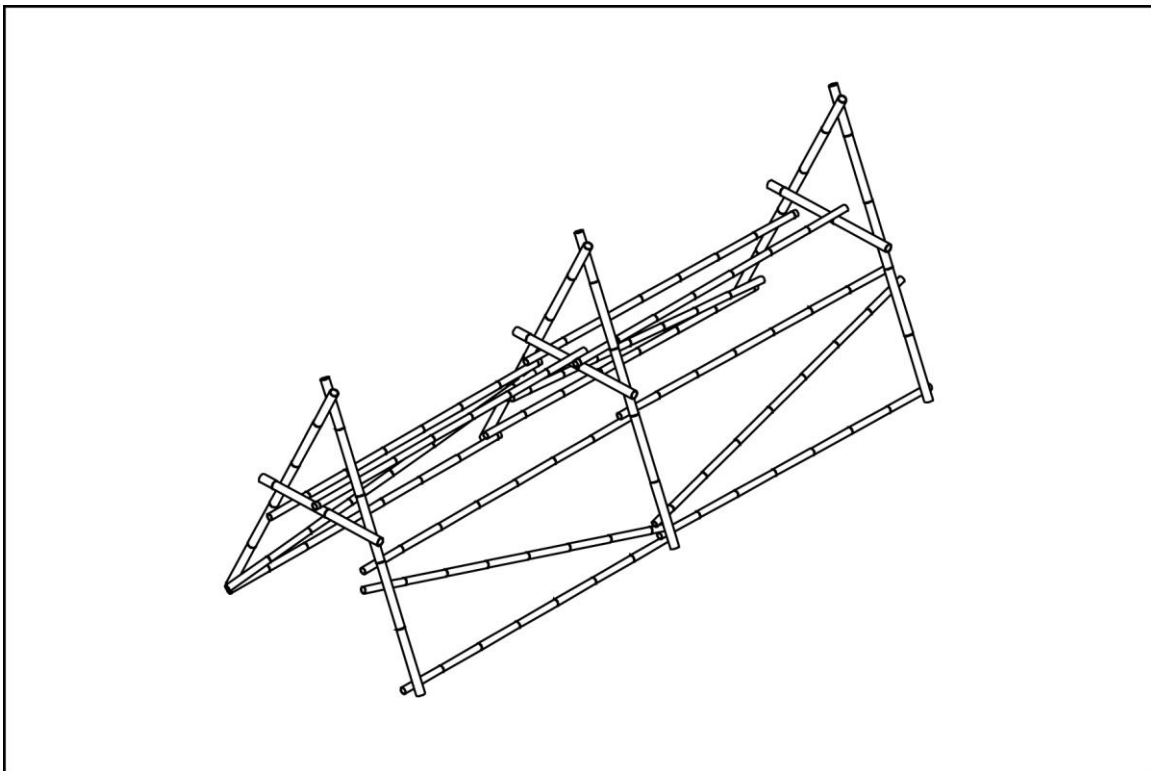

Figure 14: Diagonal bar side B
- ◆ On the other side, one end of both diagonal bars meet at the base of middle vertical post, like a “V” (Figure 14).